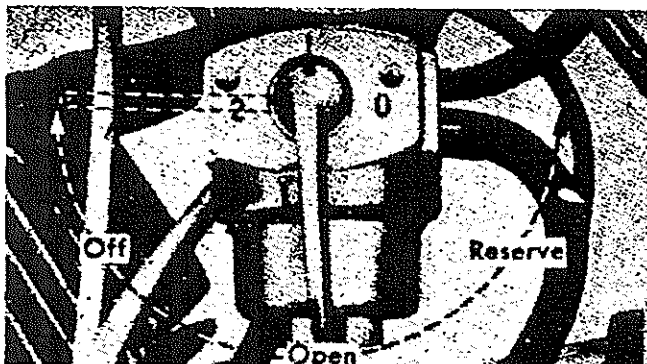

Fig. 1
- 1) Turn the fuel cock lever to "open" position "1" as shown in Fig. 1.